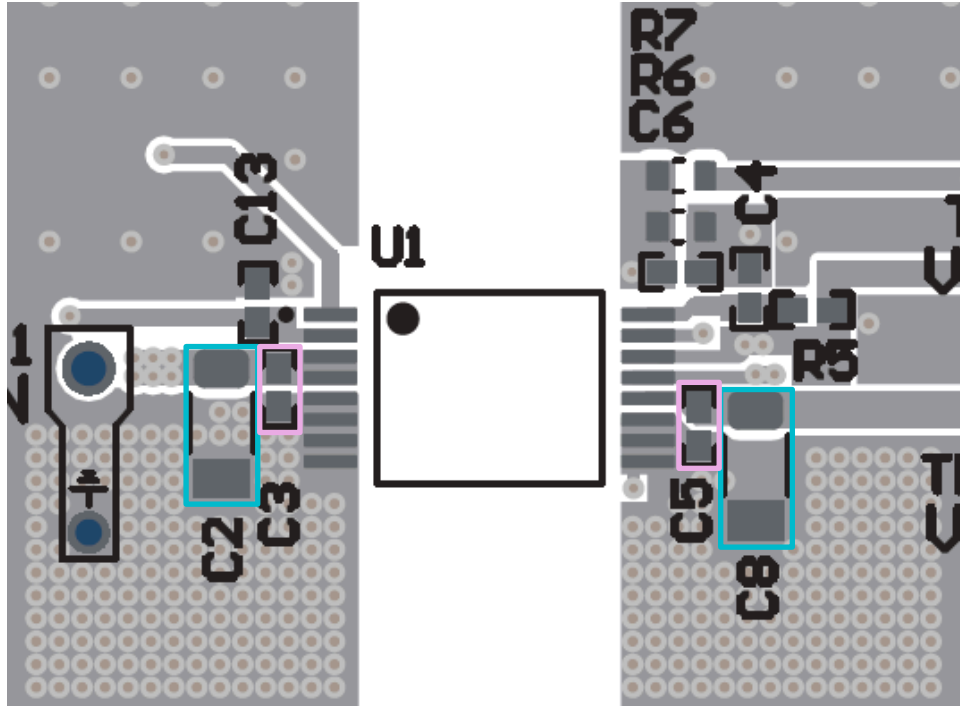

Figure 8-5. VIN (C2, C3) and VDD (C5, C8) Capacitors
- b. Place the bulk VIN capacitor(s) (C2) as close as possible and parallel to the 0.1 μ F high frequency bypass capacitor (C3) and on the same side of the PCB as the IC as shown in Figure 8-5.
- b. Place the bulk VDD-COM capacitor (C8) as close as possible and parallel to the 0.1 μ F high frequency bypass capacitor (C5) and on the same side of the PCB as the IC as shown in Figure 8-5.
8. Power good pins decoupling capacitor: The decoupling capacitor must be placed close to pin 2 (power good pin) and on the same side of the PCB as the UCC34141-Q1. Refer to C13 placement shown in Figure 8-5.